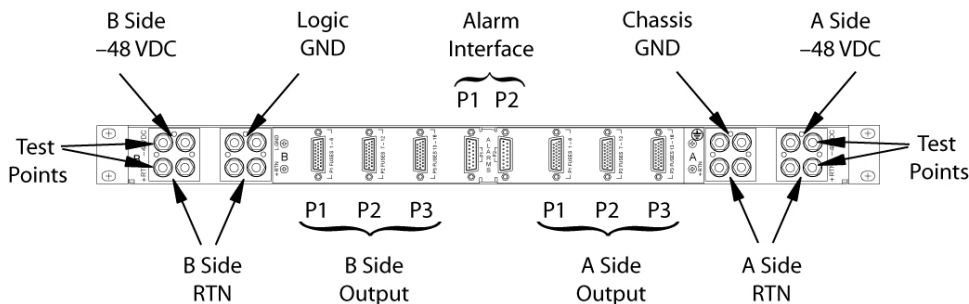
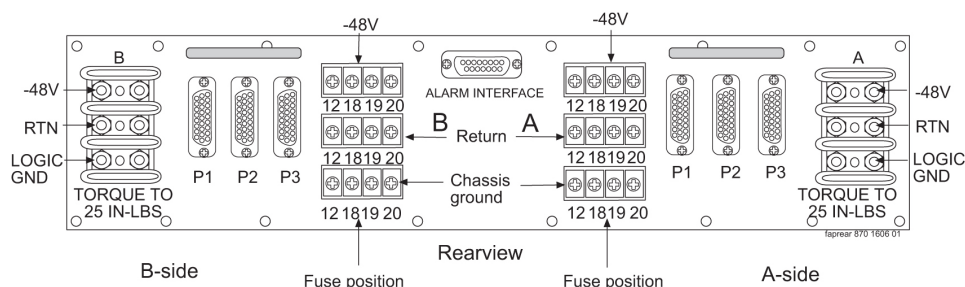

Figure 49: 1U Fuse and Alarm Panel Rear (P/N 870-2804-01)
Figure 50: 3U Fuse and Alarm Panel Rear (P/N 870-2320-03))
9. Fasten the lugs of the cables to the respective A-side and B-side -48VDC and RTN points on the FAP. Refer to Figure 49: 1U Fuse and Alarm Panel Rear \(P/N 870-2804-01\) and Figure 50: 3U Fuse and Alarm Panel Rear \(P/N 870-2320-03\).